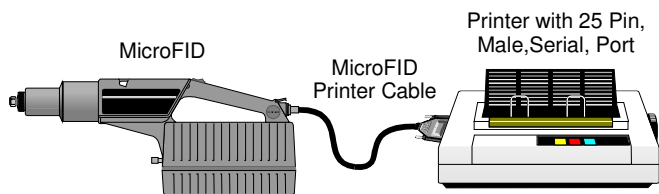

Figure 12 Connecting MicroFID to a Serial Printer
2. Connect the RS-232 printer cable (Part No. MX396051) to the I/O port on the back of the MicroFID and then to the serial port on the printer. See Figure 12.